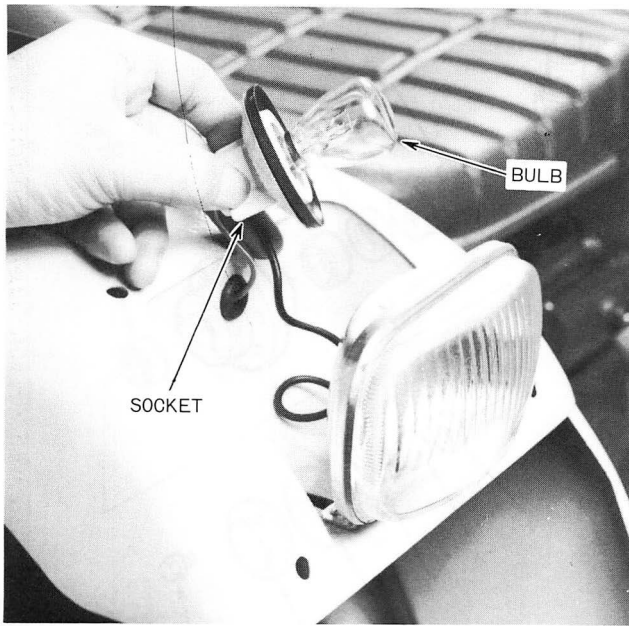

Figure 58 — Headlamp Socket
2. Turn the socket to align the index tab and remove the socket from the housing, Figure 58.